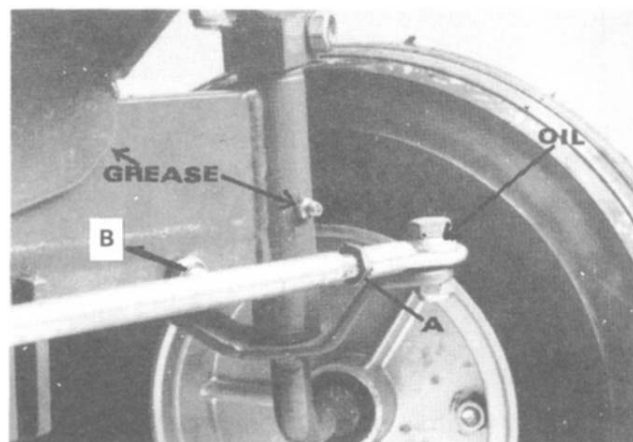

Fig. 11
- Grease nipples on front wheel pivots. See Fig.11
- Tie rod ball ends; See Fig. 11